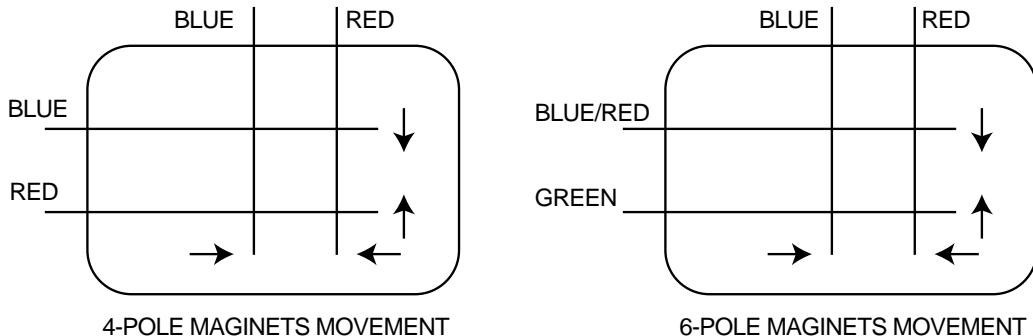

FIG. B-3 CENTER CONVERGENCE ADJUSTMENT
8. Since the 4-pole and 6-pole magnets interact, the dot movement is complex(fig B-3).